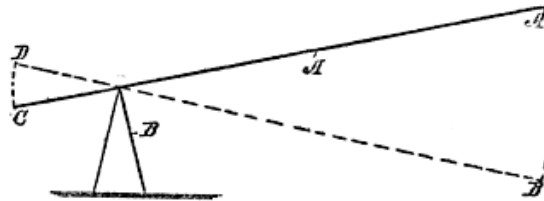

Fig. 127. Lever Action ToList
First: Look at Fig. 127; the distance traveled. The long end of the lever is at its highest point, which is A; and the short end of the lever is at its lowest point C. When the long end of the lever is pushed down, so it is at B, it moves four times farther than the short end moves upwardly, as the distance from C to D is just one-fourth that from A to B. The energy expended in moving four times the distance balances the power gained.
THE LEVER AND THE PULLEY.—If we should substitute a lever (D) for the pulleys, the similarity to the lever (Fig. 127) would be apparent at once. The pivot (C) in this case would act the same as the pivot (C) in the lever illustration.